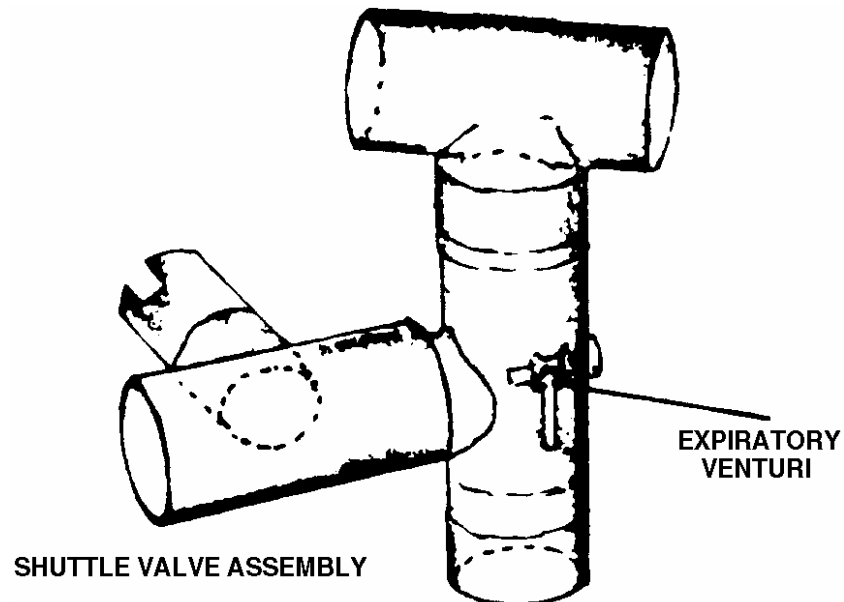

Figure 1-11. Expiratory venturi.
(8) Expiratory venturi. The expiratory venturi part of the shuttle valve assembly shown in figure 1-11 is designed to lower pressures above the exhalation valve within the shuttle valve assembly. The amount of pressure drop is proportional to the velocity of flow from the expiratory venturi jet, which is controlled by the expiratory flow gradient control knob. The expiratory venturi functions actively only during the expiratory phase of controlled IMV.